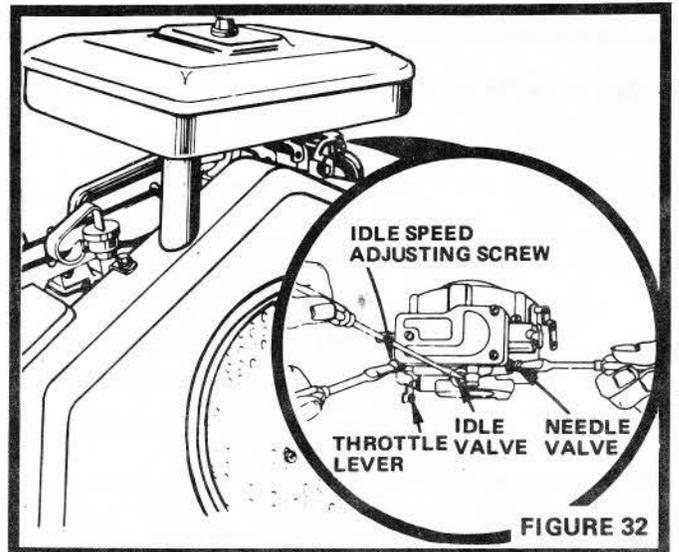

FIGURE 32
- Turn Needle Valve clockwise, closing finger tight ONLY, and then turn counterclockwise 1 - 1/2 turns (Fig. 32).
Make necessary adjustments (Fig. 32)